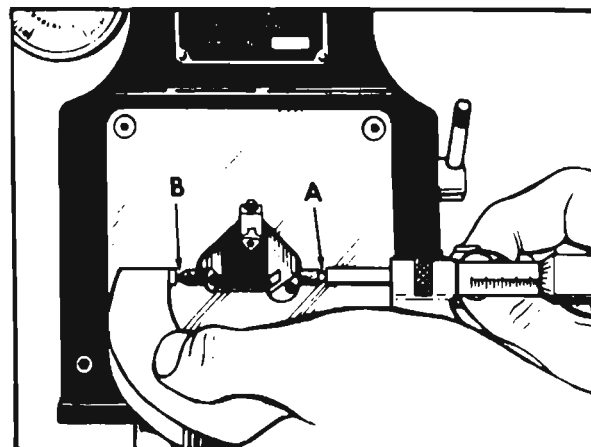

Fig. 14
1. A micrometer may be used as follows: (Fig. 14):